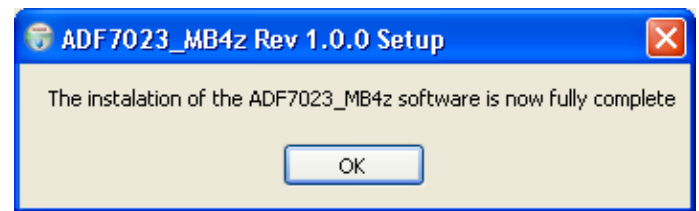

Figure 3
7. Follow all instructions on screen until the message in Figure 3 appears. At this point the installation is fully complete and your pc is ready to run the evaluation software.